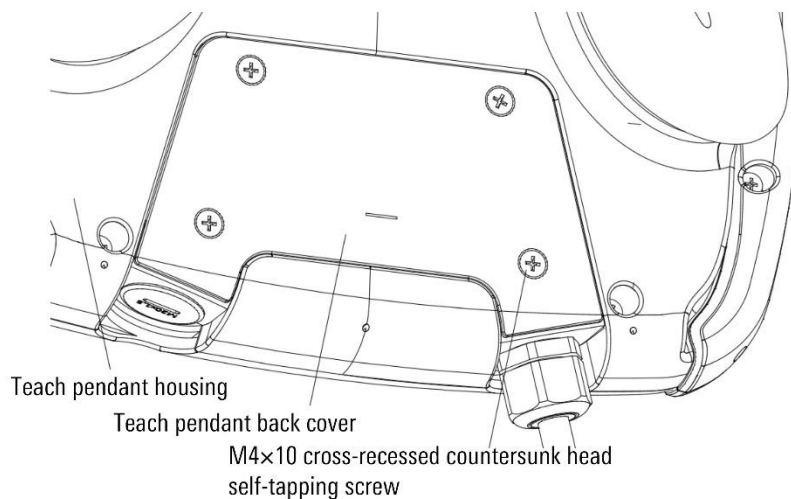

Figure 10-9 Diagram 1 of replacing the external wiring harness of the teach pendant
- Step1. Use a phillips screwdriver to unscrew the four M4×10 cross-recessed countersunk head self-tapping screws on the back cover of the teach pendant, and remove the back cover. Refer to Figure 10-9.